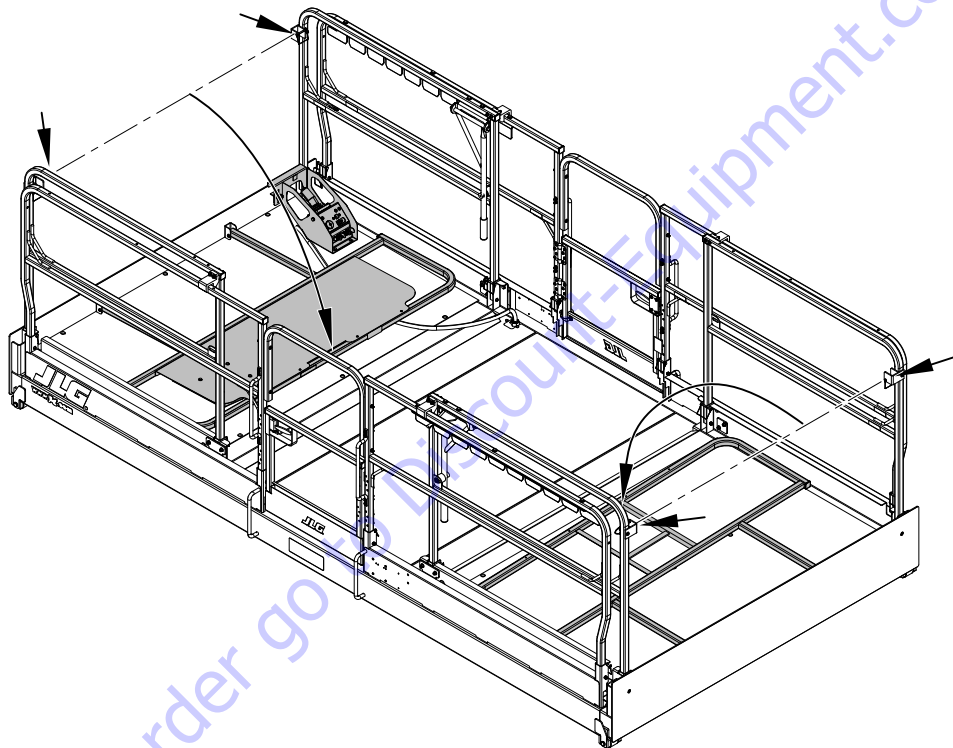

Figure 3-2. Platform End Rails - Fold Down Sequence and Rail Pin Locations
2. Pull platform end rail pins (two pins per end rail, see short arrows in Figure 3-2.) and fold the platform end rails down onto the platform deck.